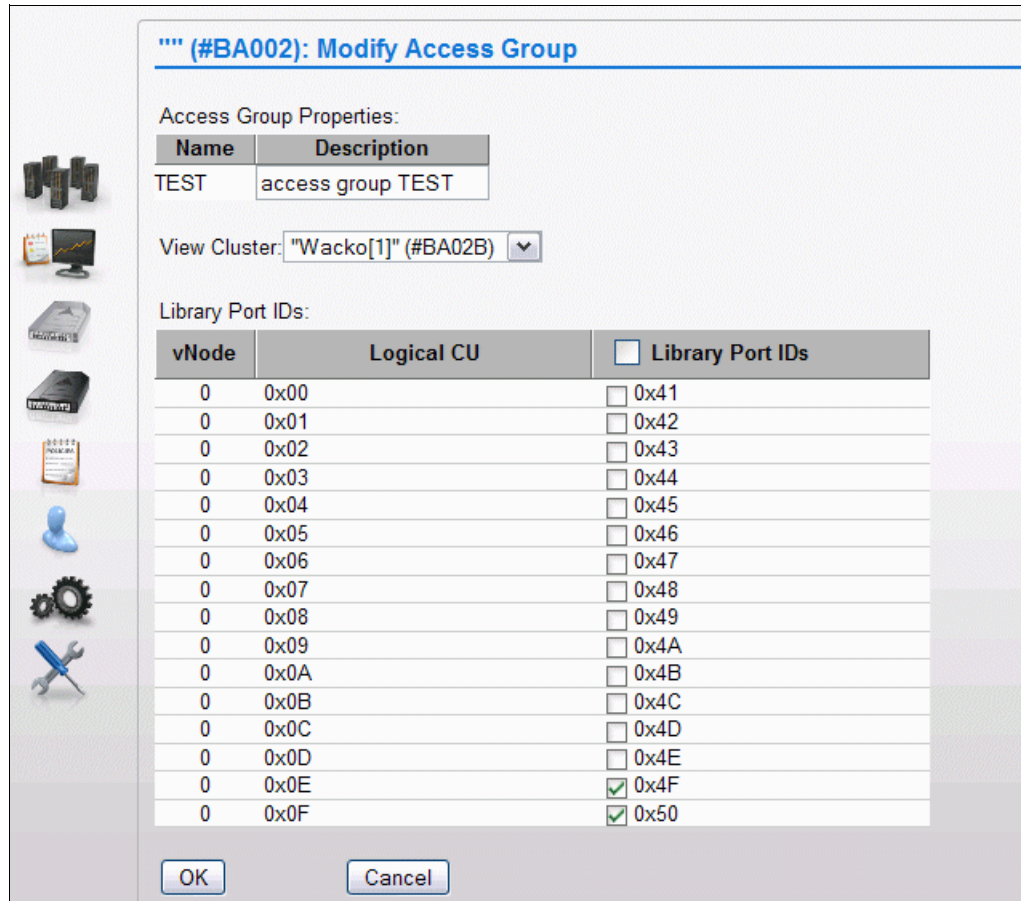

Figure I-11 Modify an access group for TEST LPAR
- Use the menu to select Cluster 1 to add Lib Ports 4F and 50 to the TEST access group, as shown in Figure I-11.